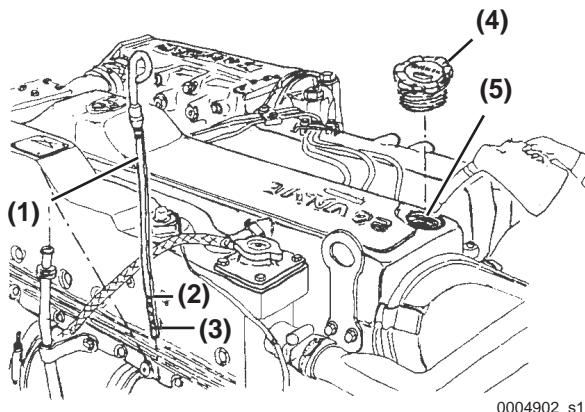

Figure 3-22
- Remove the dipstick (Figure 3-22, (1)) and wipe with a clean cloth.
- Remove the dipstick. The oil level should be between the upper (Figure 3-22, (2)) and lower (Figure 3-22, (3)) lines on the dipstick.
- NOTICE:** Prevent dirt and debris from contaminating engine oil. Carefully clean the dipstick and the surrounding area before you remove the cap. Remove the oil filler port cap (Figure 3-22, (4)) from filler port (Figure 3-22, (5)) and fill with engine oil.
- Fill with oil to the upper limit on the dipstick (Figure 3-22, (2)). **NOTICE:** NEVER mix different types of engine oil. This may adversely affect the lubricating properties of the engine oil. NEVER overfill. Overfilling may result in white exhaust smoke, engine overspeed or internal damage.